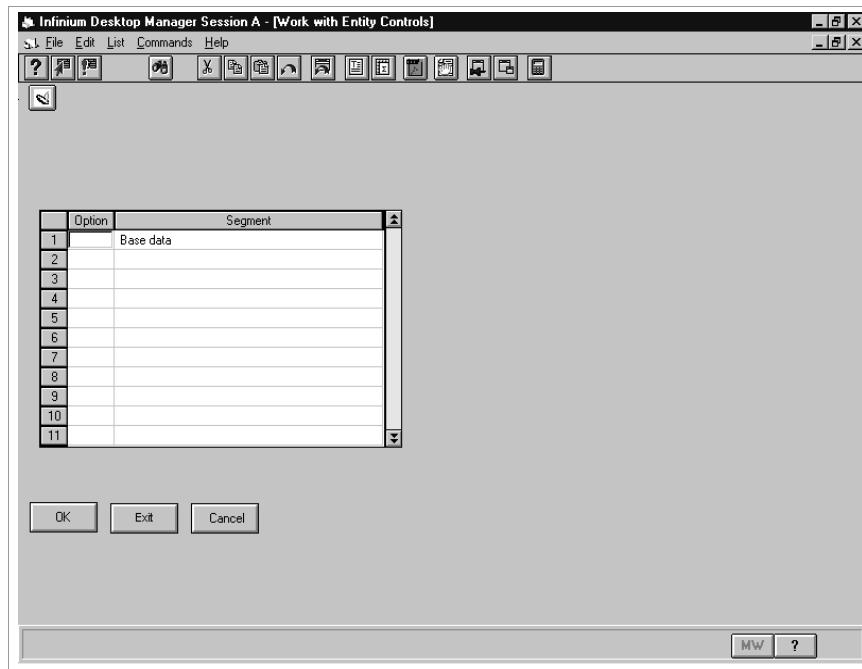

Figure 2-2: Work with Entity Controls screen
- 2 Select *Work with entity controls* [WWEC]. The system displays a screen similar to Figure 2-2.